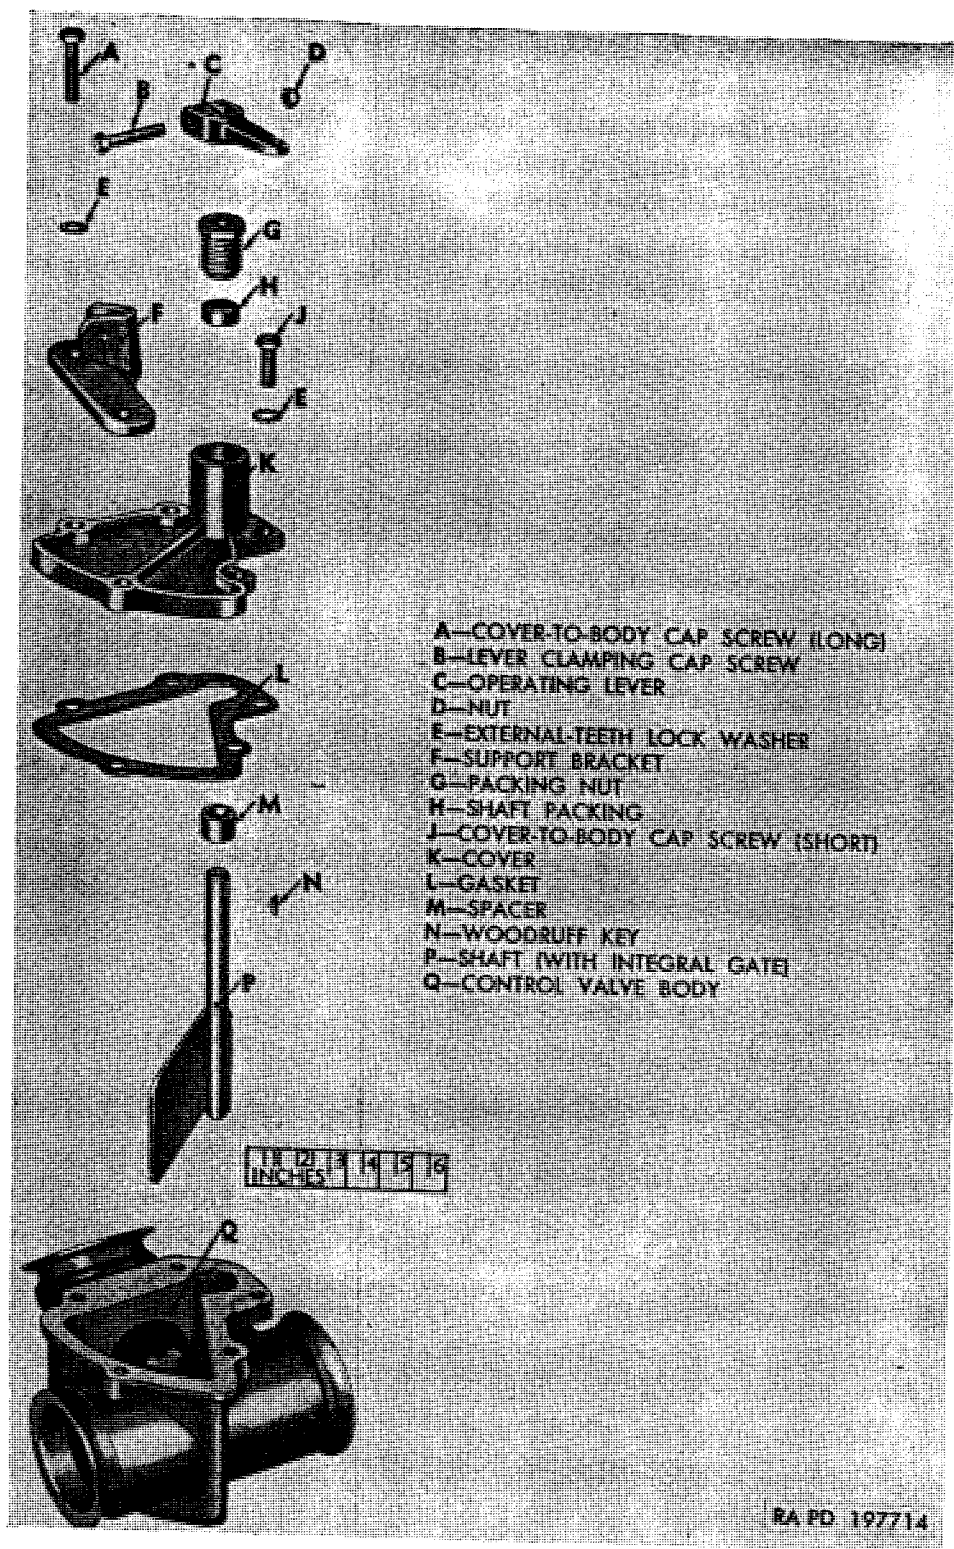

Figure 380. Exhaust control valve components.
c. Disassembly (fig. 380).
- (1) Loosen nut (D) on lever clamping cap screw (B) and remove operating lever (C) from shaft. Remove woodruff key (N) from shaft.
- (2) Unscrew packing nut (G) from cover and remove from shaft.
- (3) Remove cover-to-body cap screws (A and J) and external-teeth lockwashers (E). The two long cap screws (A) also attach the support bracket (F).
- (4) Separate cover (K) from control valve body (Q). Lift cover off shaft (P), then remove gasket (L), spacer (M), and shaft (P).
- (5) Remove shaft packing (H) from cover and discard.
- (1) Clean all rust and scale from inside of valve body, shaft and gate, bottom of cover, spacer, and packing nut. Use wire brush and scraper as necessary to clean parts. Make sure all old packing is removed from shaft opening in cover.
- (2) Inspect clamping flanges at body inlet and outlet openings. If burned excessively or otherwise damaged, replace body assembly.
- (3) Inspect shaft and gate. If gate is loose on shaft, or distorted, or if shaft is damaged at packing surface, replace with new part.
e. Assembly (fig. 380).
- (1) Place shaft (P) in body and install spacer (M) on shaft.
- (2) Place gasket (L) on body; then install cover (K) over shaft and onto body.
- (3) Attach cover-to-body with three short $\frac{5}{16}$ -18 x 1 cap screws (J), two long $\frac{5}{16}$ -18 x $1\frac{3}{8}$ caps screws (A), and five $\frac{5}{16}$ -inch external-teeth lockwashers (E). Support bracket (F) must also be attached with the two long cap screws (A). Tighten all cap screws.
- (4) Place new shaft packing (H) over shaft and into cover. Install packing nut (G) over shaft and thread into cover. Tighten nut just enough to form a seal, but not sufficiently to cause packing to bind shaft.
- (5) Tap woodruff key (N) into keyseat in shaft, install operating lever (C) on shaft, and tighten nut (D) on lever clamping cap screw (B).
- (6) Turn operating lever to the limit of its travel in both directions to make sure shaft turns freely. If shaft binds, loosen packing nut slightly and work lever back and forth to free up shaft.